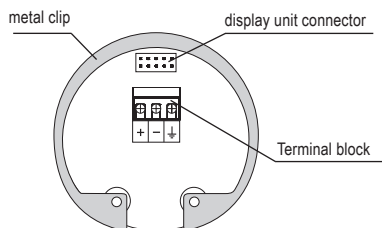

Fig. 15: Inside view of screw terminals of the level meter with current output ULM-70_--_-I
5. Connect the cable to the screw terminals according to the diagram in Fig. 15 or 17. Firmly tighten the terminals and the cable outlet.